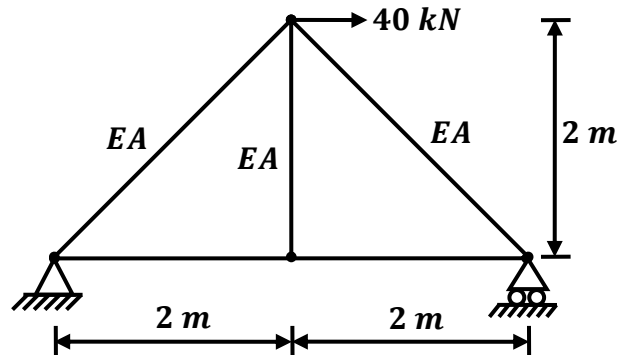

Fig. 3
4. Determine horizontal displacement at the apex point of the plane truss shown in fig.3.